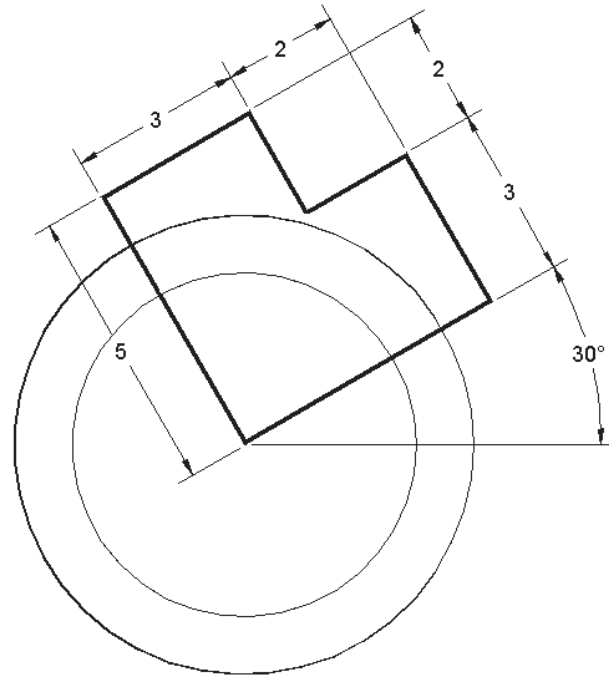

Figure 3–19
9. On the *Home* tab>Draw panel, click  (Polyline) and draw the object shown in Figure 3–19.